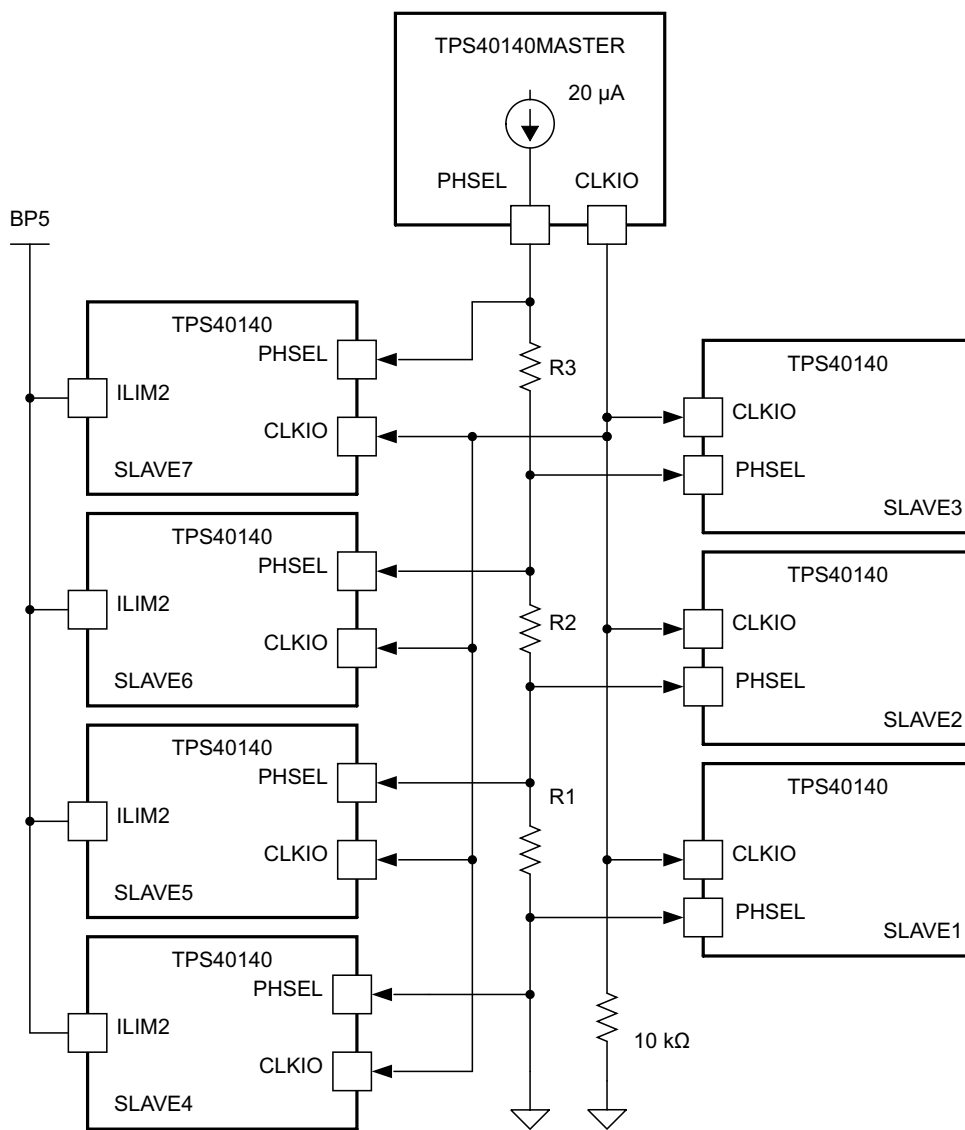
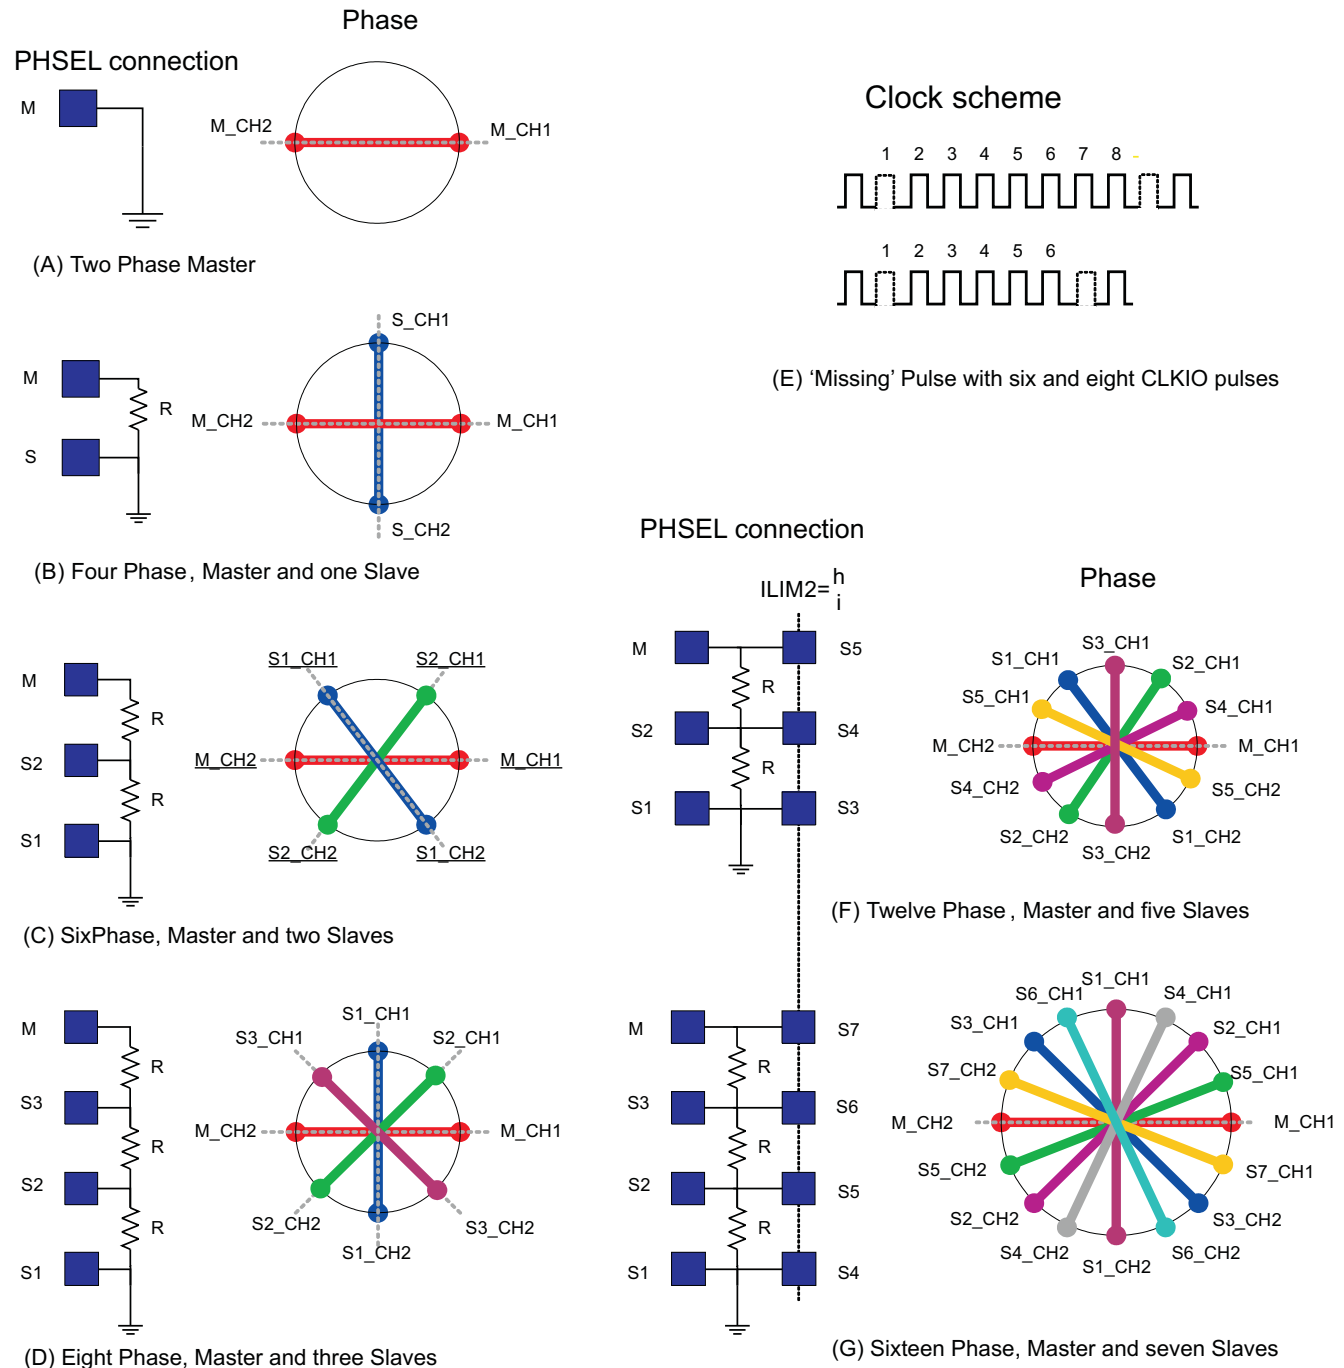

Figure 25. Master Controller and Seven Slave Controllers, 16 Phases
Figure 26. Clock Phasing Summary
If four slaves are desired, just delete one of the slaves from Figure 24. The interleaving is not perfect because there is a 30° between the master and three slaves. The deleted slave causes 60° between the two adjacent slaves. See Figure 26 for phasing details.
To further increase the total current capability to sixteen phases, or to increase the number of outputs, seven slave controllers can be added as shown in Figure 25.
In this configuration, the master senses that there are three slave controllers (due to the three resistors) and distributes an eight-phase CLKIO signal. Slave1, slave2, and slave3 are turned on at 90°, 45°, and 135° respectively as before with three slaves. However, to get sixteen phases with an eight-phase clock, both edges of the CLKIO signal are used to control the slaves. With the ILIM2 tied high on slave4, slave5, slave6, and slave7 they turn on at the rising edge of CLKIO, while the master and slave1, slave2, and slave3 turn on at the falling edge of CLKIO. If six slaves are desired, just delete one of the slaves from Figure 25. The interleaving is not perfect because there is 22.5° between the master and three slaves. The deleted slave causes 45° between the two adjacent slaves. See Figure 26 for a phasing details.
Figure 26 is a summary of the master and slave clock phasing. The master and the slaves can be selected to be a multi-phase, single output configuration and/or several independent output voltage rails, independent of the clocking.
The solid square boxes in Figure 26 represent the PHSEL pin of the master (M) controller or a numbered slave controller (S1-S7). The labels on the spokes of the wheels indicate a master Channel 1 and master Channel 2 (M\_CH1 and M\_CH2) and numbered slaves Channel 1 and slave Channel 2 (Sn\_CH1 and Sn\_CH2). The Channel 1 and Channel 2 of a given master or slave is always 180° out-of-phase.
The 3-phase system could also be configured with 1 channel of the master and 2 channels of the slave. Referring to Part (B) above, the 3 phases could be master CH1 or master CH2 and slave CH1 and slave CH2. In either of these configurations there is 90° between two of the channels and 180° between the other channel. The unused channel could be another independent output voltage whose clocking would occupy the phase not used in the 3-phase system. This philosophy can be used for any number of phases not shown in Figure 26, Clock Phasing Summary.